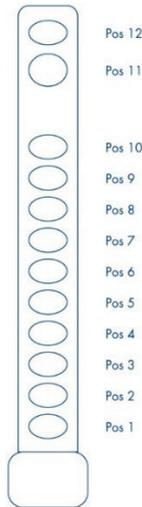

Figure 6. EZ1&2 ccfDNA cartridge.
4. Briefly centrifuge to collect all the liquid at the bottom of the tube. Remove the cap from the tube with the bead solution and place in position 11 of the EZ1&2 ccfDNA cartridge (see Figure 6).
5. Transfer 900 μ L elution buffer EZE into position 12 of the EZ1&2 ccfDNA cartridge (see Figure 6).